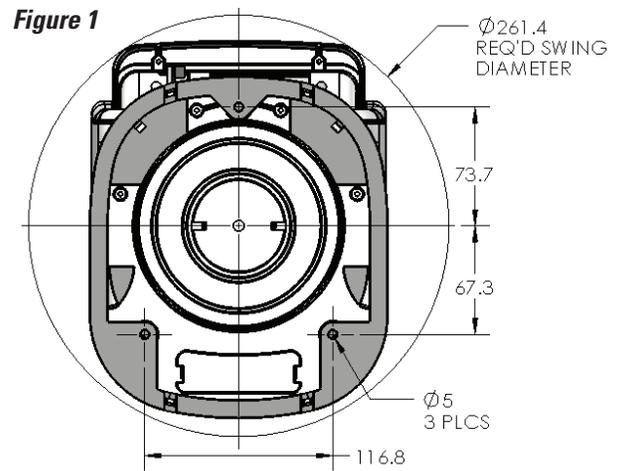

Figure 1 – Permanent Mount Shoe/Spotlight – Bottom View Looking Up - Dimensions in mm
1. Determine the location for the light on your vehicle. This should be a flat surface. The small arrow on the base indicates the normal forward direction of the light. The light will rotate to the left of this arrow 185 degrees and to the right 185 degrees. The lamp will tilt down 45 degrees and tilt up 90 degrees. The location should take into consideration this range of motion to maximize usability. Keep in mind the swing diameter is 261.4 mm (10.3 inches) from the center of the permanent mount shoe – see Figure 1. This allows for clearance as the light is rotating.
2. The permanent mount shoe is designed to be mounted with either sheet metal screws or a combination of cap screws, nuts and washers. You should choose hardware appropriate to the surface to which you intend to attach the light. Drill holes in mounting surface for either type of hardware depending upon your preference. Refer to Figure 1 for hole pattern dimensions.